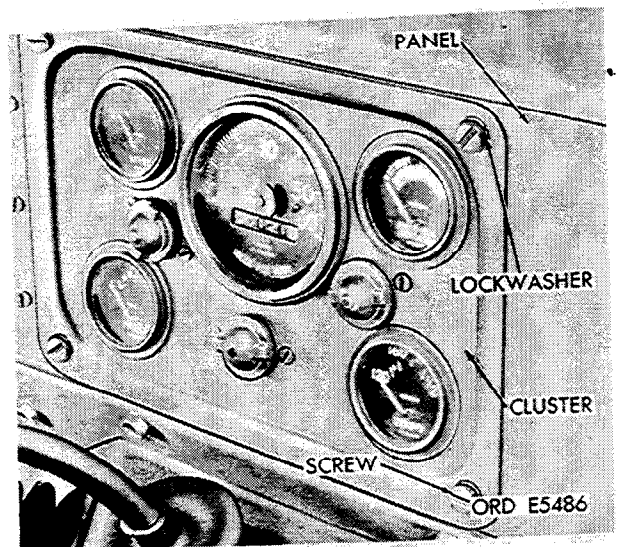
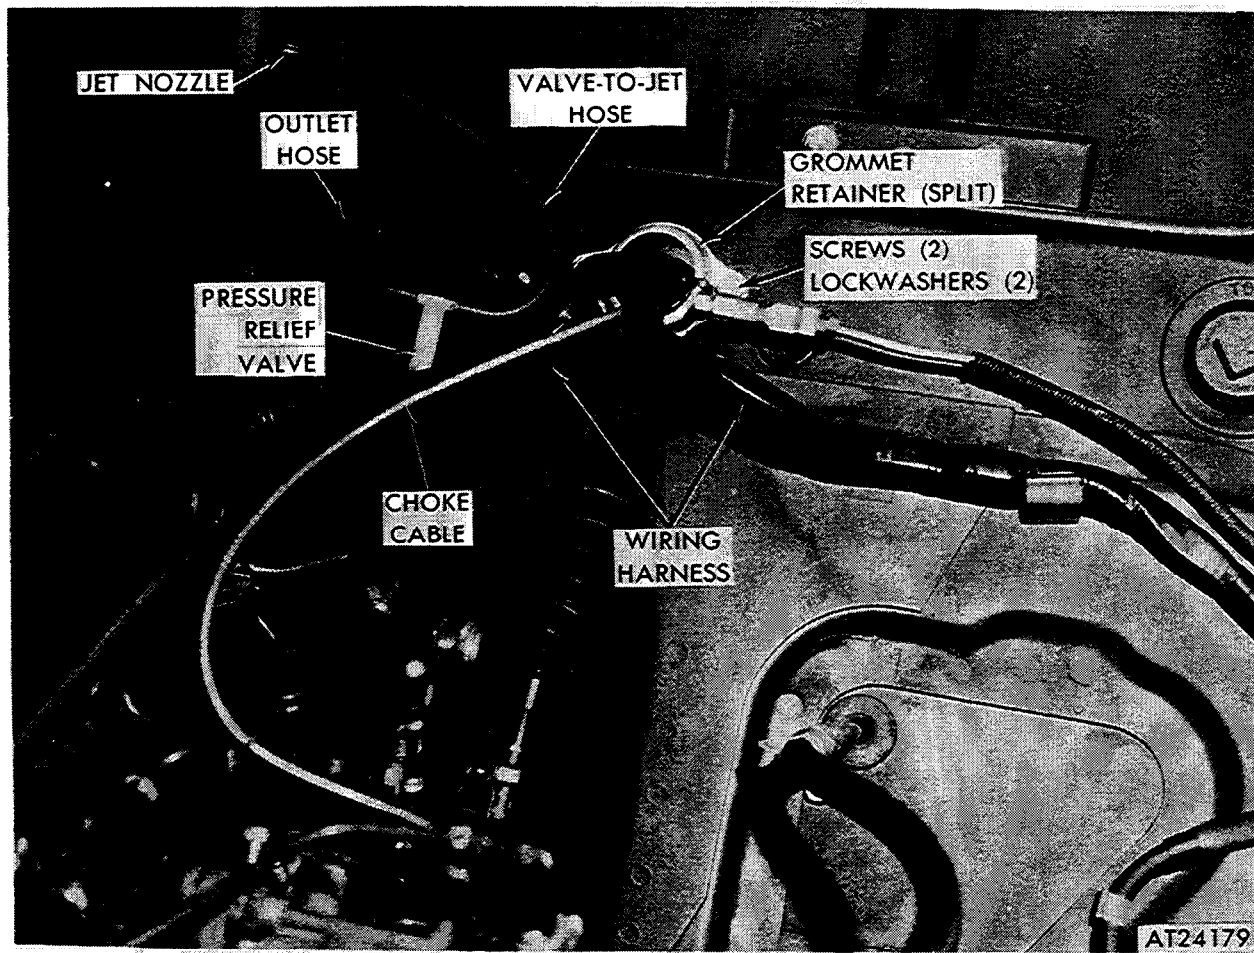

Figure 2-233. Instrument cluster removal.
Figure 2-248. Removing or installing grommet and its retainer to firewall on M151A2, M825, and V1718A1 vehicles.
(19) Remove four screws and lockwashers securing instrument cluster to dash panel and pull instrument cluster away from panel (fig. 2-233).
(15) Remove two screws and lockwashers securing grommet retainer. Remove retainer (fig. 2-248).
(16) Pull rubber grommet away from firewall, and push choke cable and its housing through firewall.
(17) Remove four screws and lockwashers securing instrument cluster assembly to dash panel (fig. 2-233).